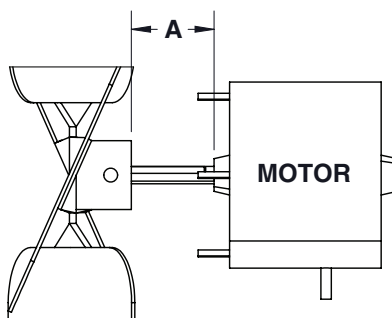

Figure 5. Fan and Motor Spacing (Refer to Table 6)
6. Ensure that fan is in proper position on shaft (see Figure 5) and setscrew is tightened in accordance with torque listed in Table 6.
*See Figure 5 .
*See Figure 5.